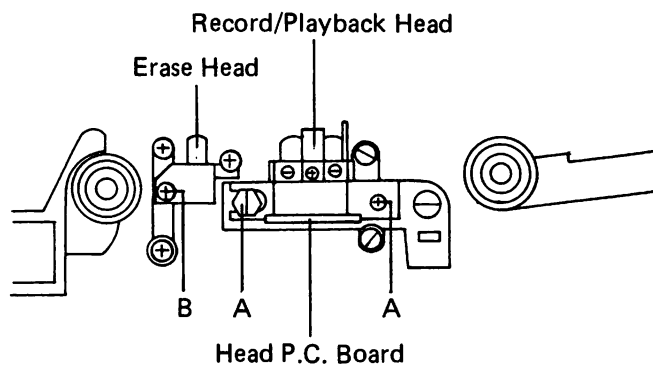

Figure 28
- (1) Remove the cassette deck assembly according to the item "Parts Locations and Instructions".
- (2) For removal of the record/playback head, remove two screws (A) and disconnect the lead wires from the head P.C. Board as shown in Figure 28. Then remove the record/playback head from the P.C. Board using a soldering iron.
For removal of the erase head, remove the screw (B) and disconnect the lead wires from the head to take it off as shown in Figure 28.
- (3) After replacing the head(s) with a new one and installing the head in the reverse way to disassembly, adjust head azimuth, height and tilt angle.
- (4) Apply a lock paint on the screws (A, B) after mechanical adjustment and readjust electrical adjustment according to "Adjustment Procedures".